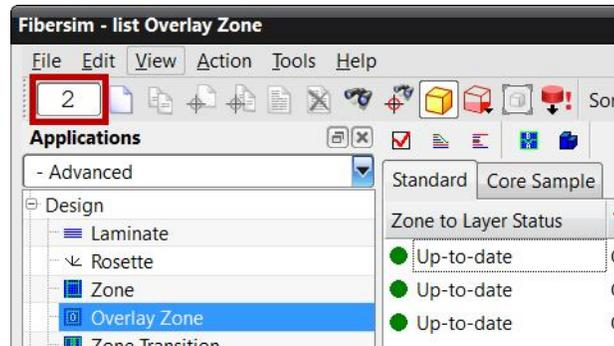

Figure 9–16
2. Enter [2] in the object counter as shown in Figure 9–16.